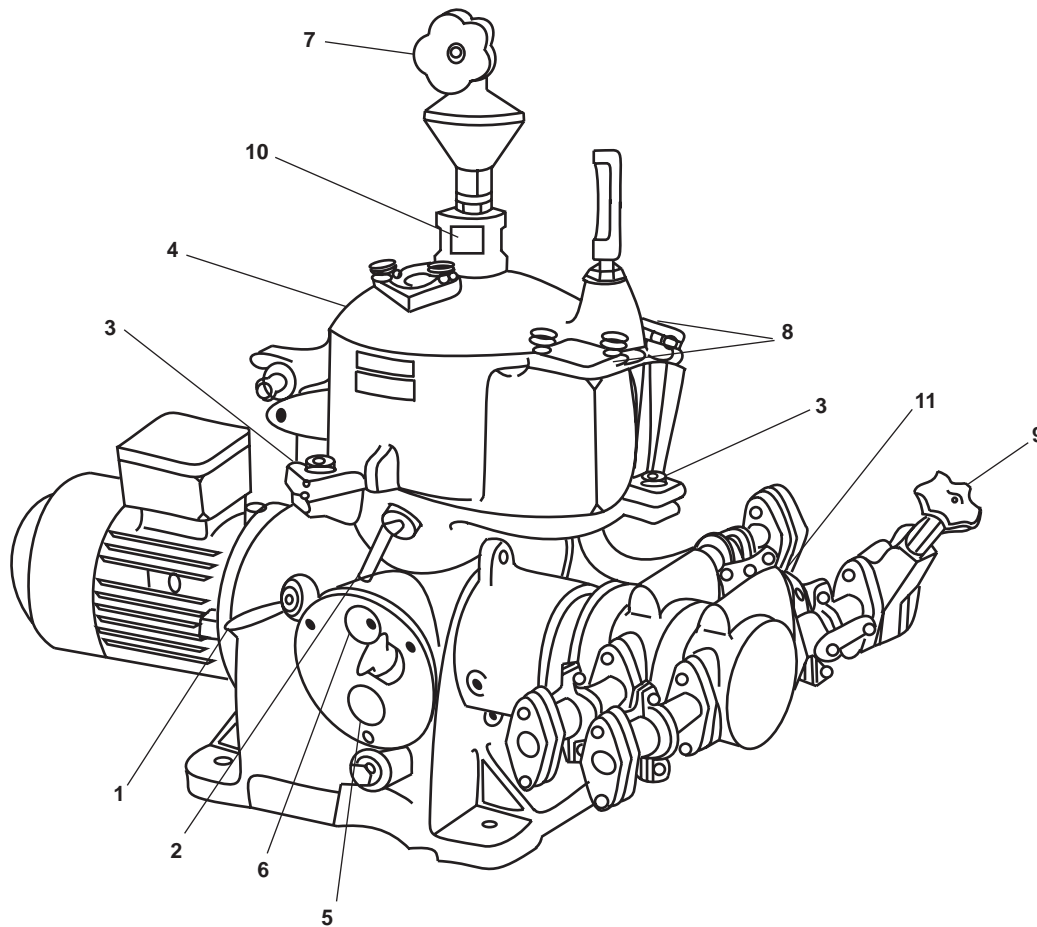

Figure 7. Lube Oil Purifier
- (1) Release the bowl brake by turning the handle (figure 7, item 1) clockwise.
- (2) Loosen the bowl lock screws (figure 7, item 2).
- (3) Unfasten the three hood securing bolts (figure 7, item 3).
- (4) Open the hood (figure 7, item 4).
- (5) Ensure that the bowl can be turned by hand.
- (6) Close the hood (figure 7, item 4).
- (7) Fasten the three hood securing bolts (figure 7, item 3).
- (8) Observe the gear oil level in the sight glass (figure 7, item 5).
- (1) Check the revolution indicator disc (figure 7, item 6) and verify that the purifier is maintaining 65 to 78 r/min.
- (2) Open the needle valve (figure 7, item 7) to the fill bowl with water.
- (3) Open the inspection cover (figure 7, item 8) to verify that the bowl is filling with water.
- (4) When bowl is full, adjust the needle valve (figure 7, item 7) so that 1-3 drops per second of make-up water enter the bowl for proper oil purification.
- (5) OPEN the shutoff valve (figure 7, item 9) to feed the dirty oil to the oil pre-heater.
- (6) Verify that dirty oil enters the sight glass (figure 7, item 10).
- (7) CLOSE the shutoff valve (figure 7, item 9).
- (1) Slowly OPEN the shutoff valve (figure 7, item 9) in the oil supply line to the separator, and adjust the oil flow rate to the match hourly capacity.
- (2) Observe through the opened inspection covers (figure 7, item 8), that the purifier has both dirty water and clean oil discharges.